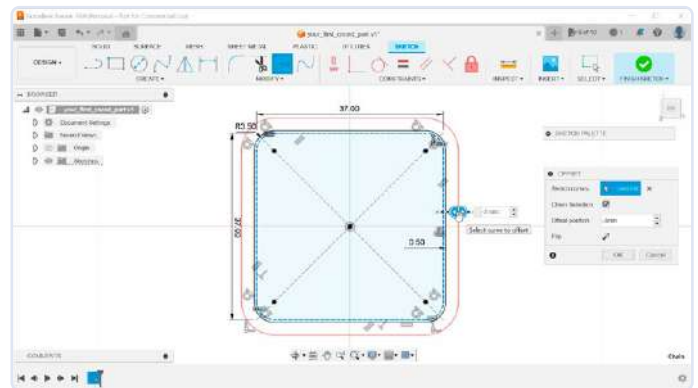

Figure 6: Setting the walls' thicknesses.
6) Another offset is required to build the walls of our enclosure (Figure 6). Repeat the step again, but enter the offset of -3 mm. This will later create 2.5 mm-thick walls.